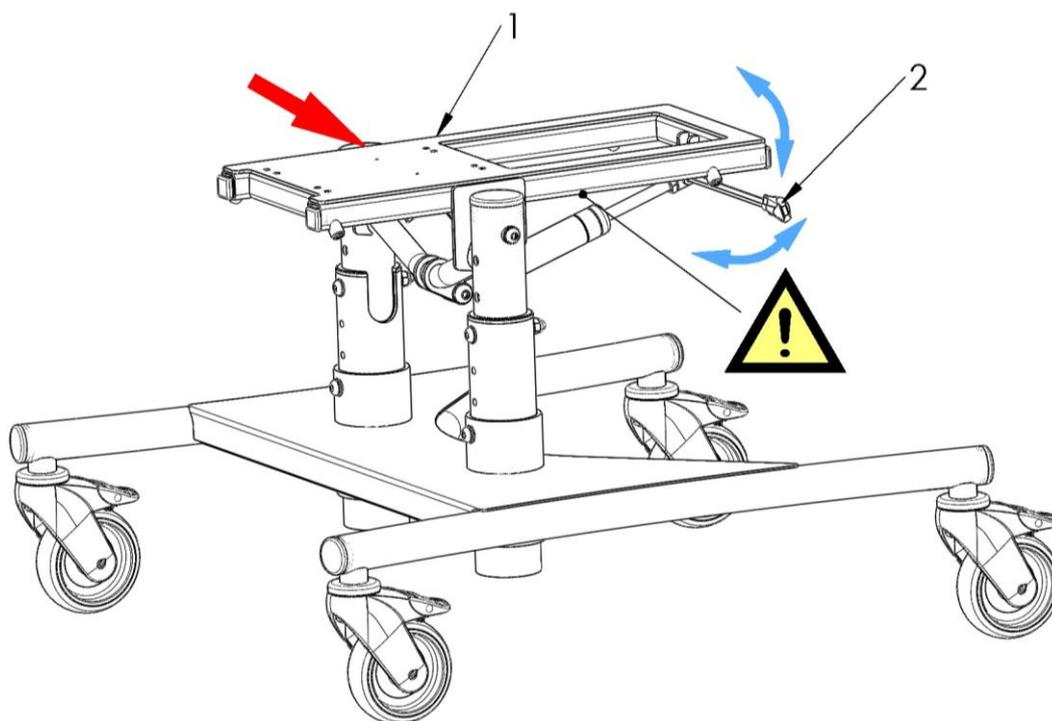

Fig. 15
Adjusting the tilt angle of the seat platform (1) is possible in the ranges  $-10^{\circ}$  do  $+30^{\circ}$  horizontally and is shown in Fig. 15. This adjustment is done by pulling back the gas spring lever (2) located under the seat platform. If the seat is not mounted on the seat platform (1), adjusting the angle is done by pressing on the back part of the platform. To adjust the tilt angle with the seat fitted on, hold the seat with one hand and the gas spring lever (2) with the other one. Once the required angle has been achieved, release the gas spring lever; this will lock the platform's tilt angle.